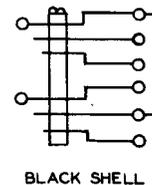

Fig. 12—338B Plug
2.11 338B: The 338B (Fig. 12) is a twin, 3-conductor plug that is arranged for use with 238-, 239-, or similar-type jacks. The 338B plug is used in the maintenance of E6 repeaters.